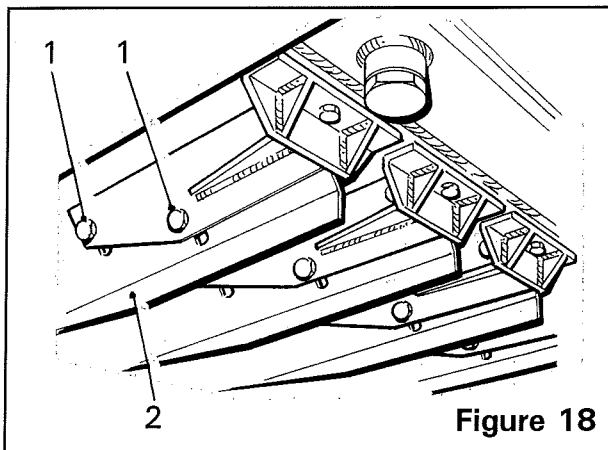

Figure 18
Scrapers are fitted to prevent excessive build up of soil and trash damaging or stalling the cleaner unit. To adjust the scrapers, slacken the mounting bolts (*item 1, figure 18*) and slide the scraper blade (*item 2, figure 18*) up until it is 2-3mm clear of the roller. Retighten the mounting bolts and check that the rollers do not foul on the scraper blades when running.